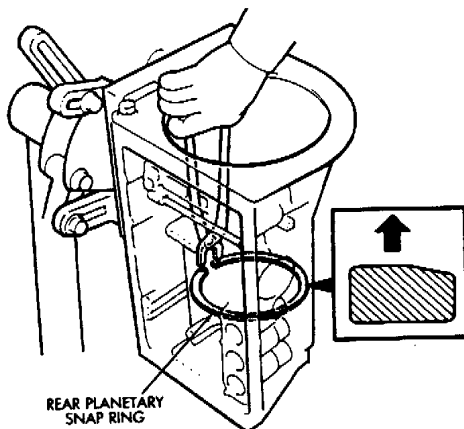
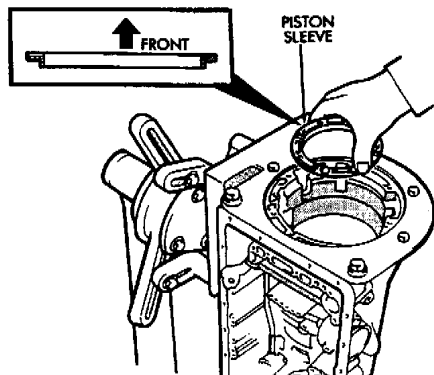

Fig. 6 Installing Planetary Snap Ring
Fig. 8 Installing Second Brake piston Sleeve
(9) Install rear planetary snap ring with snap ring pliers B.Vi. FM- 29. Chamfered side of snap ring faces up and toward case front (Fig. 6).
(10) Check first-reverse brake pack clearance with feeler gauge. Clearance should be: 0.6 to 1.74 mm (.024 to .069 in) on 4-cyl. transmissions and .70 to 2.00 mm (.028 to .079 in) on 6-cyl. transmissions. If clearance is incorrect, planetary assembly, thrust bearing or snap ring is not properly seated in case. Remove and reinstall components if necessary.
(11) Install second brake piston sleeve (Fig. 8). Sleeve lip faces up and toward case front as shown.